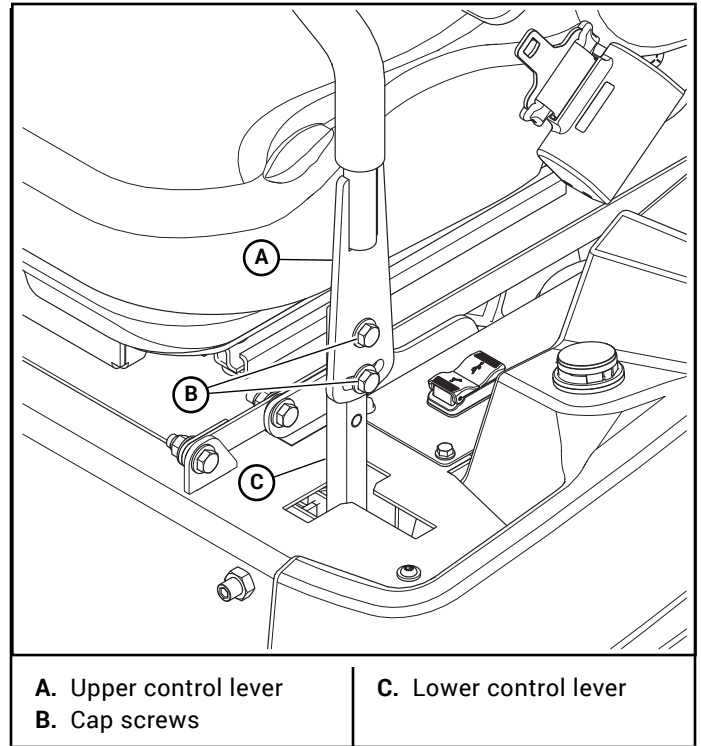

Figure 4-16
- A. To pivot the upper control levers forward or rearward, loosen the cap screws that attach the upper control lever to the lower lever. Then, pivot the upper control lever. Tighten the cap screws. Figure 4-16